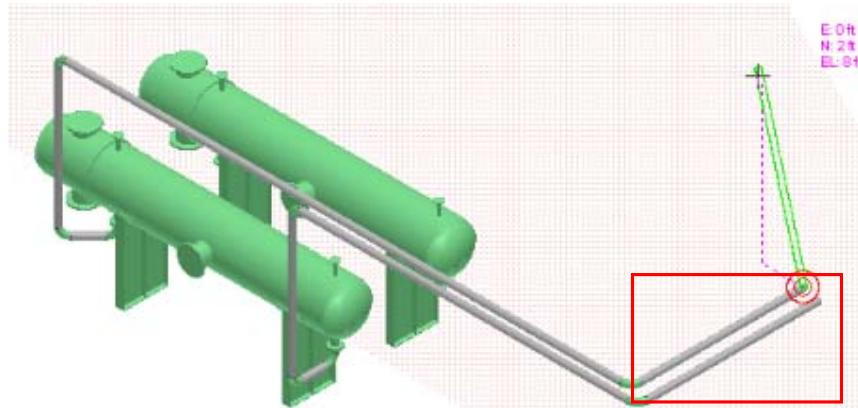

Figure 43: Routed Pipe in the East Direction
47. Now, on the **Route Pipe** ribbon, key in **10 ft** in the **Length** drop-down list and use SmartSketch to locate the **E** glyph. Click in the graphic view to place the pipe, as shown in Figure 43.